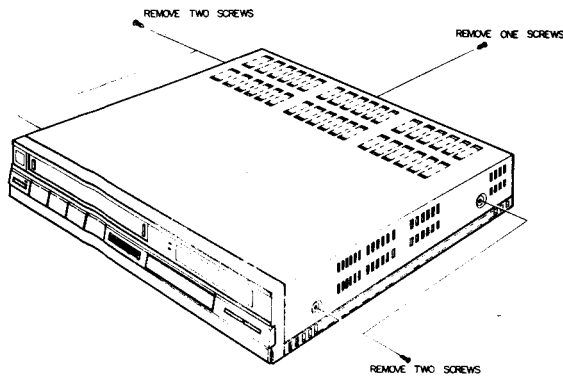

Fig.1
2-1-1. Top Cabinet Removal (Fig.1)
(See Figs1,2)
(See Figs.1 to 3)
(See Fig.1 to 3)
1. Remove the top cabinet and Regulator circuit board.(See Figs 1,8)